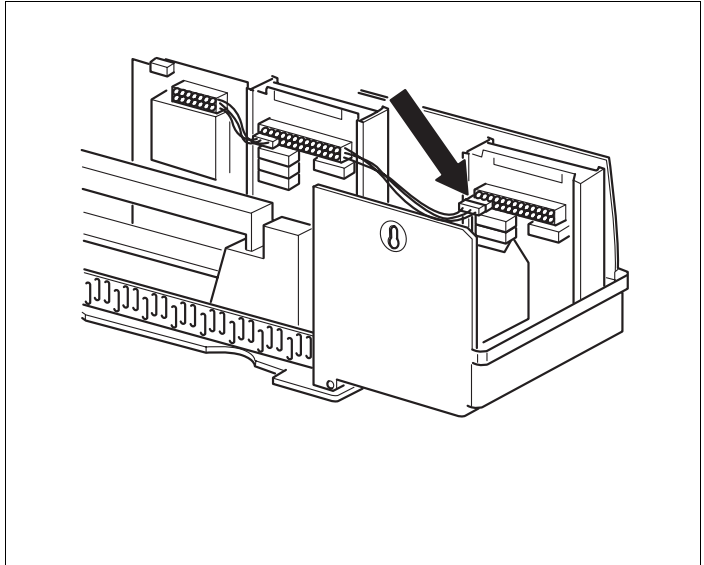

Fig. 5 Connecting the 120-V power supply
- Connect the 120-V module terminal connector to the correct position on the terminal strip (for module connection at slot 1 see arrow in Fig. 5).